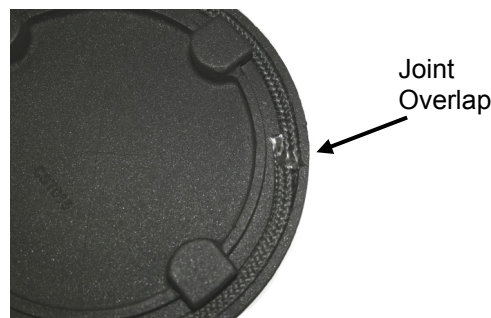

Fig. 2. Correct Roped Hot Plate
- 5) If the rope is allowed to ride up the side of the receiving groove, rather than sitting squarely, in the middle, it will impede the fitting of the hot plate / spigot and may lead to leaks. See Fig. 2.